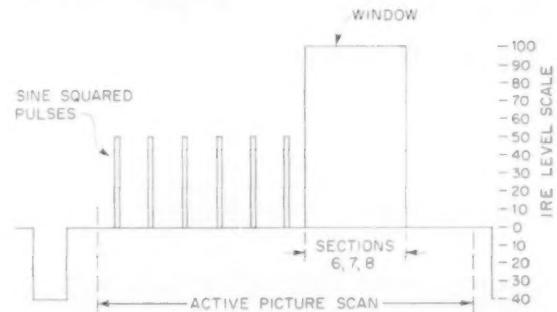

Fig. 3. Bands 9 through 15.
2.1.4 A window signal at reference white level (100 IRE units) three sections wide and six bands high to be positioned horizontally in sections six, seven and eight, as shown in Fig. 3, and vertically between the centers of the ninth and fifteenth bands. The remaining section shall be at blanking level (0 IRE units).	9 through 15
(b) Bands 9 through 15, at blanking level, as shown in Fig. 3.